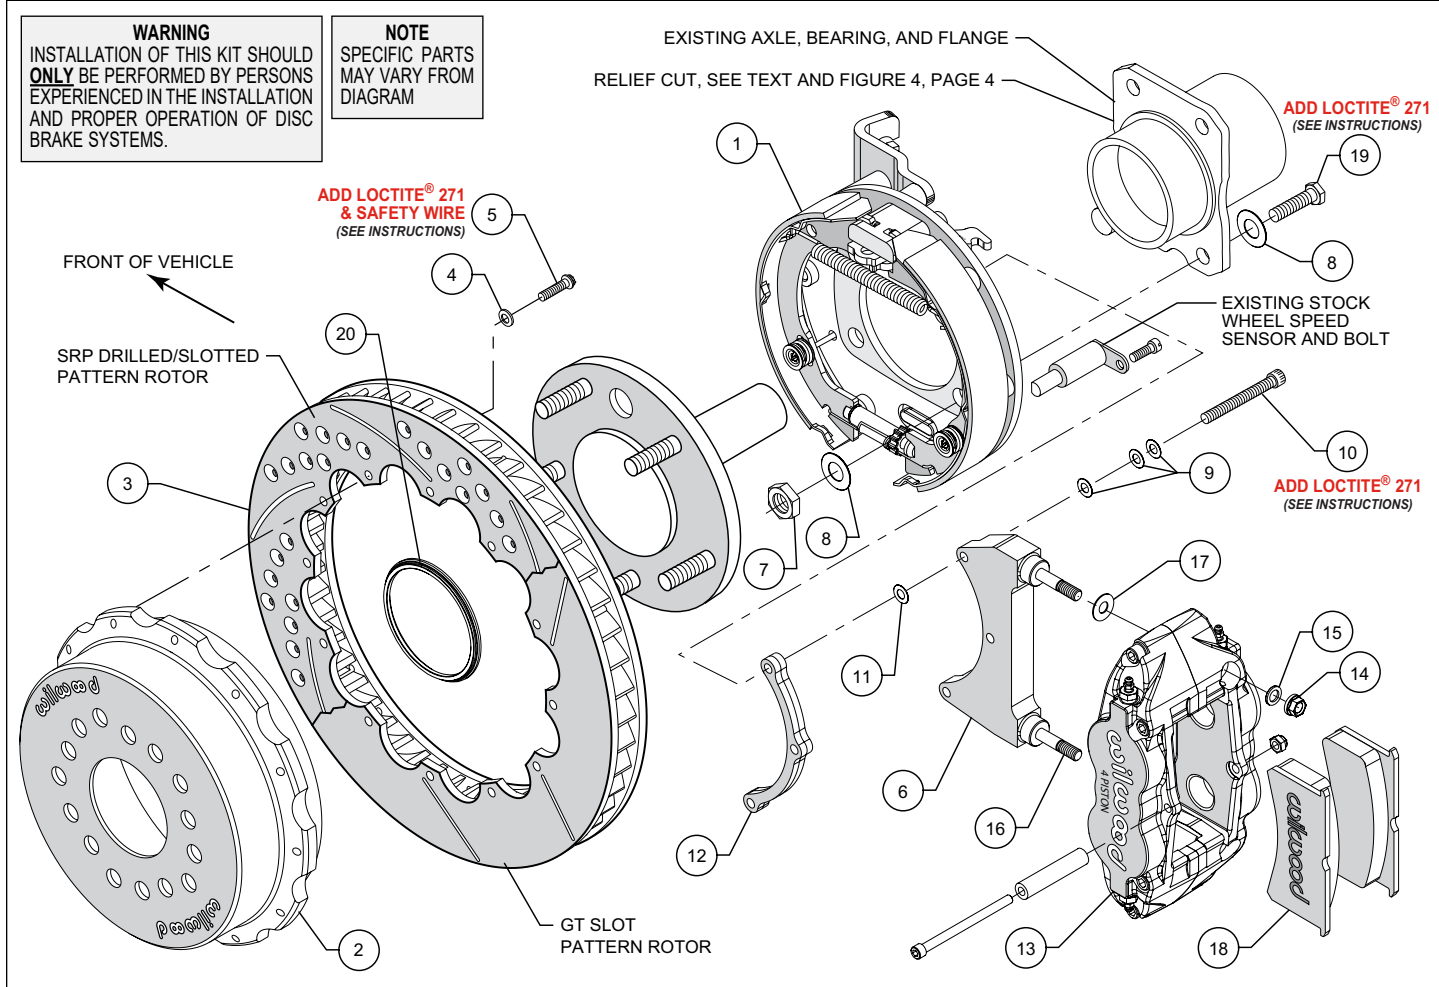

Figure 1. Typical Installation Configuration
NOTE: Numbers in parenthesis refer to the parts list and Figure 1 on the preceding pages.
- Slide the rotor registration adapter (20) onto the axle register on the axle flange with the smaller O.D. facing toward the rotor/hat (2). Align the correct hole pattern in the hat with the stud pattern on the axle flange. **NOTE:** *Some OEM and aftermarket axles come with stud sizes larger than 0.50" diameter.* Verify stud size and have a qualified machine shop drill the hats to the correct size, if necessary. Slide the hat/rotor assembly (2 and 3) over the wheel studs covering the bracket kit assembly (1) and against the axle flange face. Check to be sure the hat seats squarely against the hub. Install a couple of lug nuts (finger tighten) to keep the rotor/hat assembly in place while continuing with the installation.
- NOTE:** *Please reference the caution statement at the beginning of the assembly instructions.* The caliper mounting bracket assembly (6) should be installed first with clean, dry threads on the mounting bolts (10). Install the bracket from the rear side of the bracket kit assembly (1) by sliding bolt (10) through three flat washers (9), bracket (6), shim washer (11) and finally through the spacer (12), see Figure 1. **NOTE:** *End of bolt should not exceed inside face of insert. The bracket must tighten squarely against the back side of the bracket kit assembly (1).* Inspect for interference from casting irregularities, machining ridges, burrs, etc. Use one thin shim (11) between the bracket (6) and spacer (12) during initial trial fitting.
- Install one shim (17) over each pre-installed stud (16) on the radial mount bracket (6). Slide the caliper (13) in place over the studs and rotor, then install the washer (15) and lock nut (14) to hold the caliper in place. Snug the lock nuts (14) and check that the rotor (3) is centered in the caliper (13). Add or subtract .015" shims (11) as necessary between the caliper mounting bracket (6) and the spacer (12) to center the caliper (13).
- Remove the caliper center bridge pad retainer bolt, nut, and tube from the caliper. Slide the brake pads (18) into place. They should install easily without interference. Check that the outside radius of the brake pad is aligned with the outside radius of the rotor. Add or subtract shims (17) between the caliper (13) and mount bracket (6) to gain the proper alignment. Reinstall the center bridge pad retainer tube, bolt, and locknut. The locknut should be snug without play in the bolt or tube. Be cautious not to over tighten.
- Adjust the parking brake shoes outward (using a drum shoe adjustment tool available at your local auto parts store) while turning the hat (2) until a slight drag is felt against the hat/drum. Remove the lug nuts that were holding the hat/rotor in place. Install the wheel and lug nuts. Check to see that the wheel rotates freely without interference.
- Once all clearances have been checked, remove the wheel, caliper, hat/rotor from the bracket kit assembly (1). Secure the caliper mounting bracket (6) to the bracket kit assembly (1) using red *Loctite*® 271. Torque bolts (10) to 180 **in-lb**. Reinstall the hat/rotor assembly and again use lug nuts to hold it in place. Reinstall the caliper and torque the caliper nuts (14) to 30 ft-lb.
- NOTE:** *Clevis and cable kits which attach to the parking brake assembly are not included in the Wilwood parking brake kit.* Wilwood offers a parking brake cable kit, P/N 330-11221 for 2005-2010 and P/N 330-12335 for 2011-present which can be ordered separately from your local Wilwood dealer or by calling Wilwood customer service at (805) 388-1188.